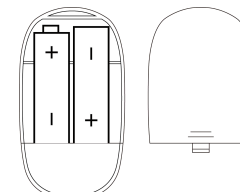

Figure 5 Batteries installation
- Step 1. Refer to Figure 5, and insert the two AAA size batteries properly in the right direction.
- 3) Let the user's finger put into the rubber cushions of the clip (make sure the finger is in the right position), and then clip the finger. As shown in Figure 5.